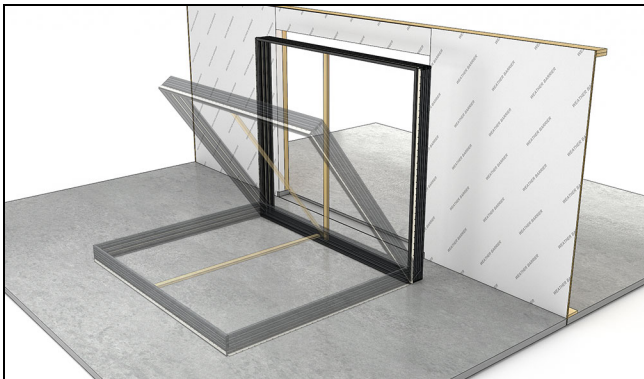

Figure 52
2. Stand the frame upright next to the rough opening and slide into the opening. See Figure 52.